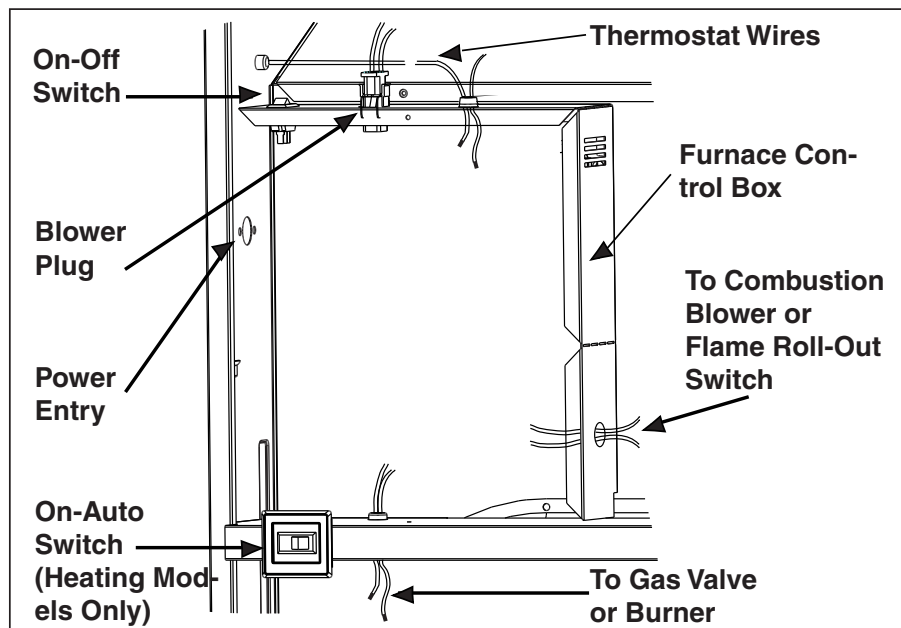

Figure 25. Control Panel (All Models)
- Insert 115 volt wires through the strain relief on the left side of the furnace control box (see Figure 25).
- Connect the thermostat wires to the furnace low voltage pigtails (see Figure 25).